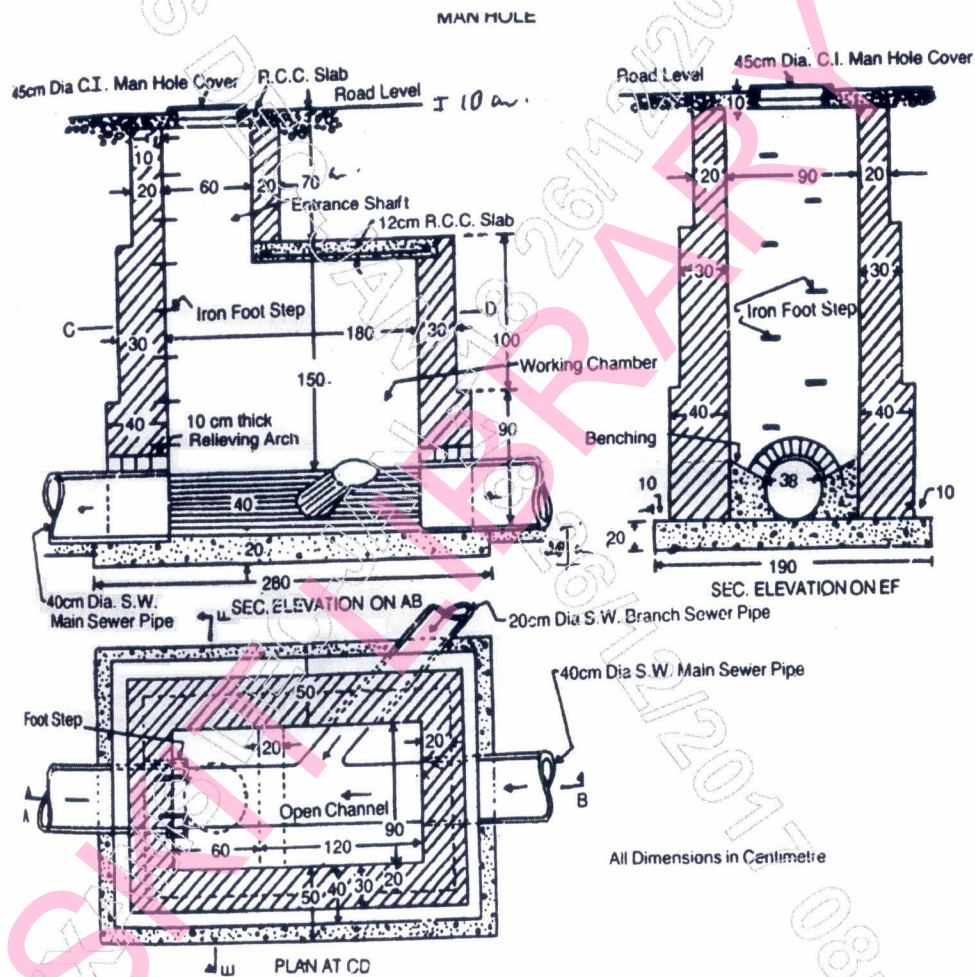

Fig Q3
- 3 The details of man hole is as shown in Fig. Q3. Estimate the quantities for the following item of work